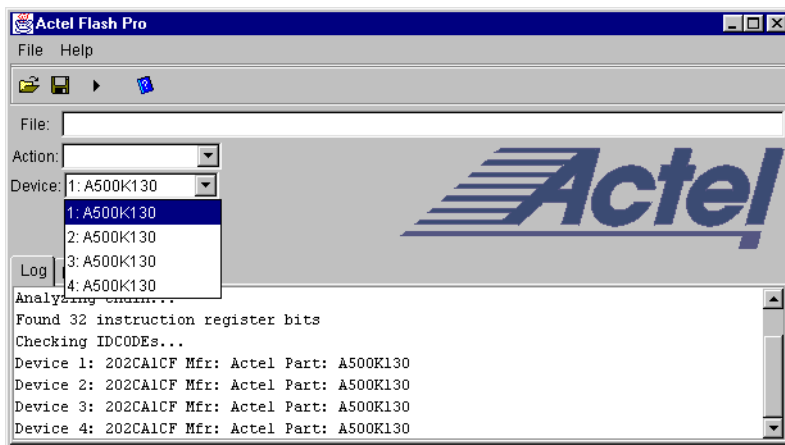

Figure 2-4. Flash Pro: Device Selection
have multiple devices in the chain, you must select the devices as shown in Figure 2-4.
**Note:** The first device, selected in Figure 2-4 is the device that is nearest to TDO of the programming header.